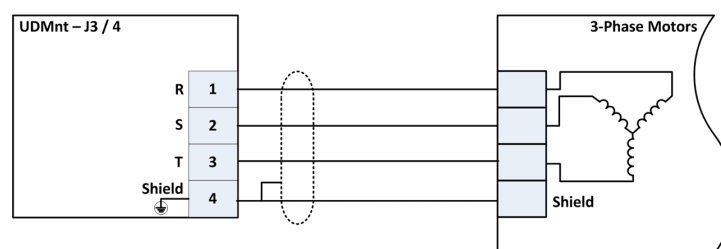

Figure 4-8. Three-Phase Motors (AC synchronous, Step Motor)
- > Three-phase (AC synchronous, step motor), see Figure 4-8.